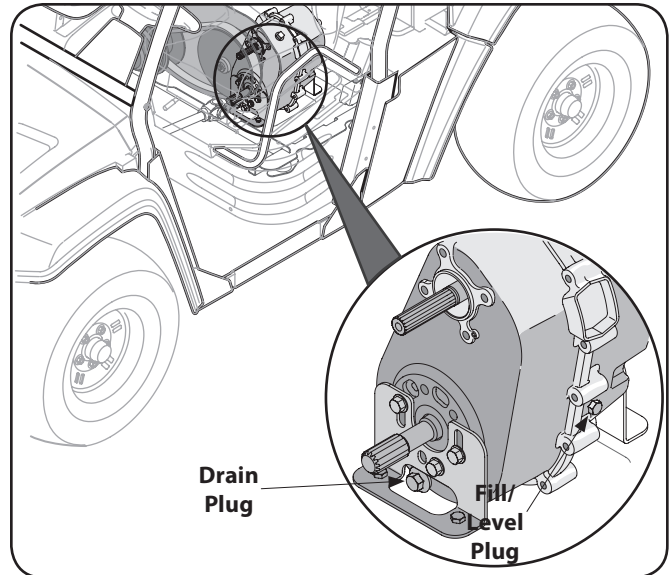

Figure 6-3
4. Access drain plug through slot on underside of machine and remove plug. See Fig. 6-3.